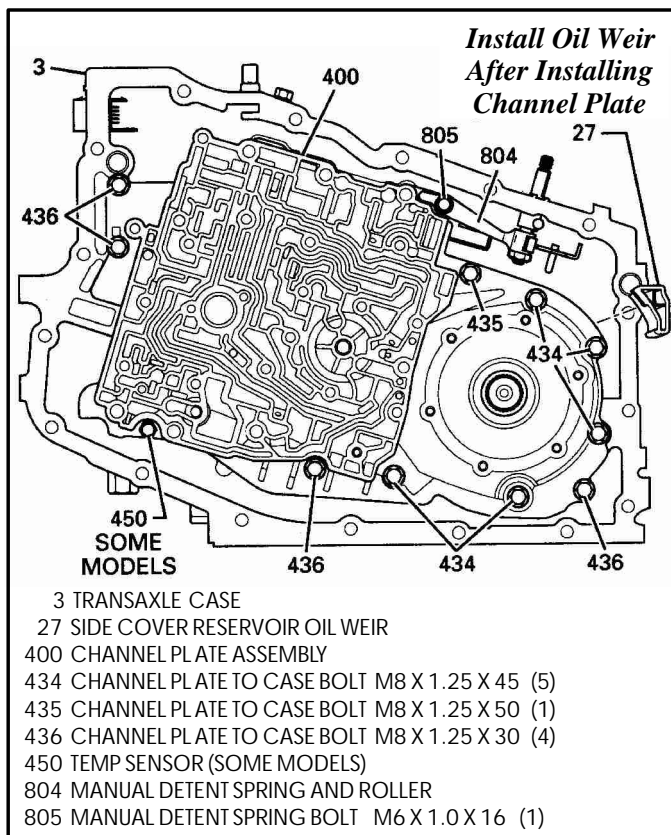
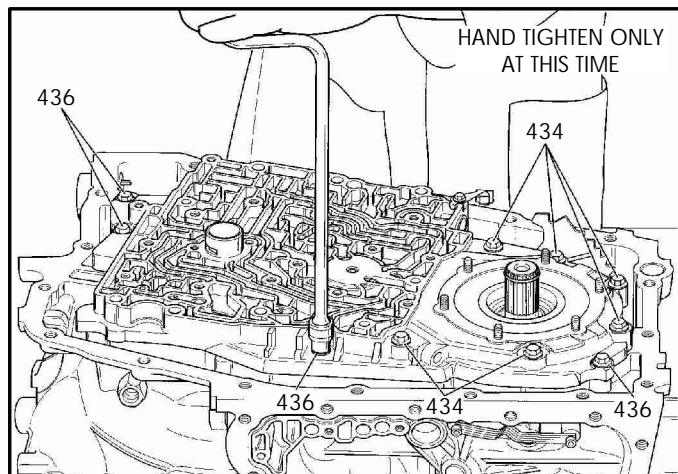

Figure 196
Figure 195
63. Install the channel plate to case bolts in their proper locations, as shown in Figure 196, and **hand tighten** only with speed handle at this time, as shown in Figure 195.